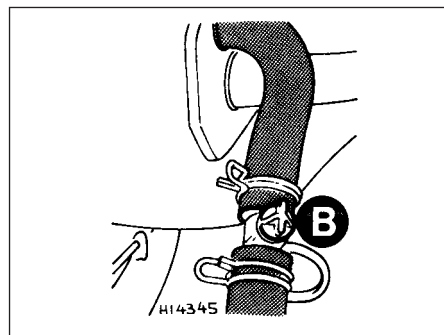

Fig. 2.2 Plug (B) in heater hose (Sec 2)
7 Remove the plug (B) (Fig. 2.2) from the bleed hole in the heater hose.